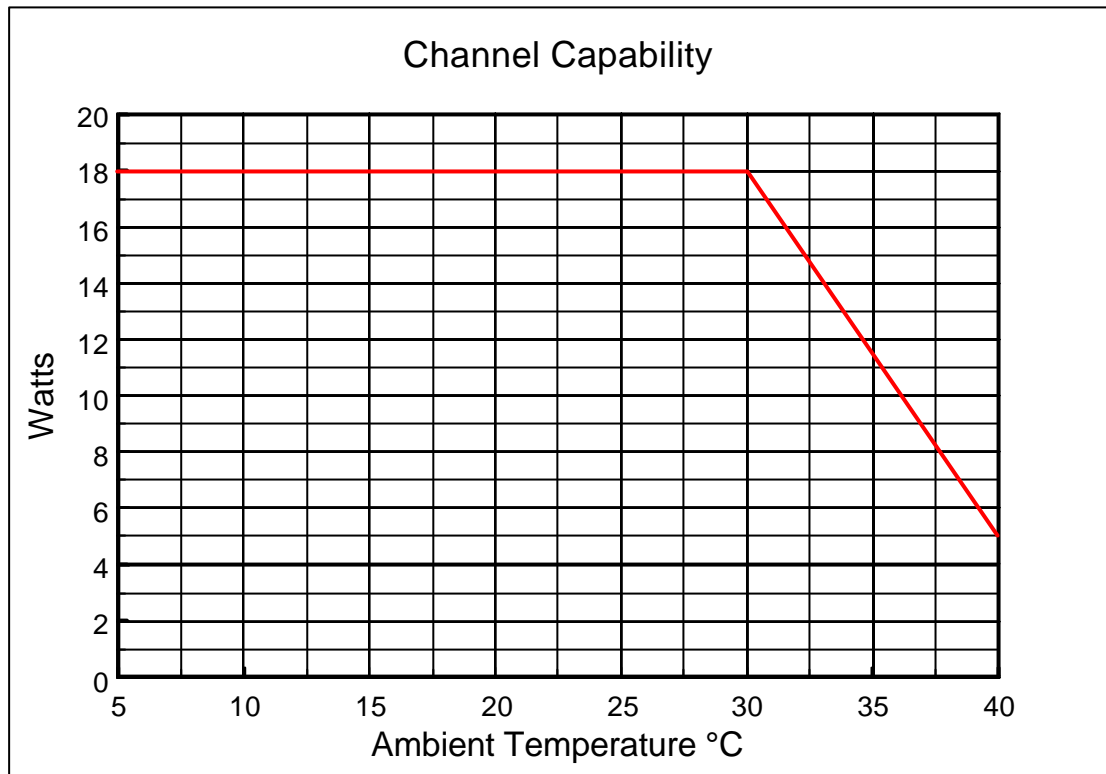

Figure 5 Channel Performance
- 3.4.5 From the performance graph in Figure 5 determine the maximum ambient temperature allowed for this performance.